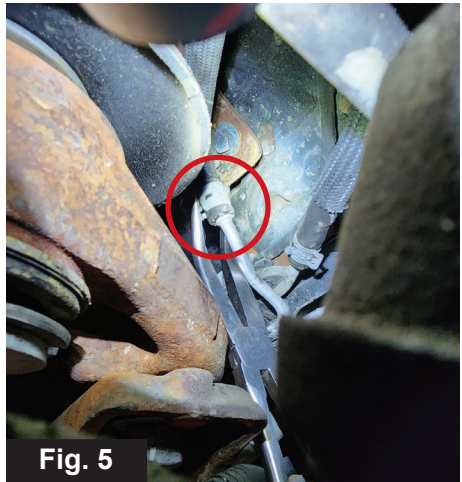

Fig. 3
5. Disconnect the hose from the coolant surge tank **(Fig. 2)** along with all christmas tree clips supporting this hose. **(Fig. 3)**